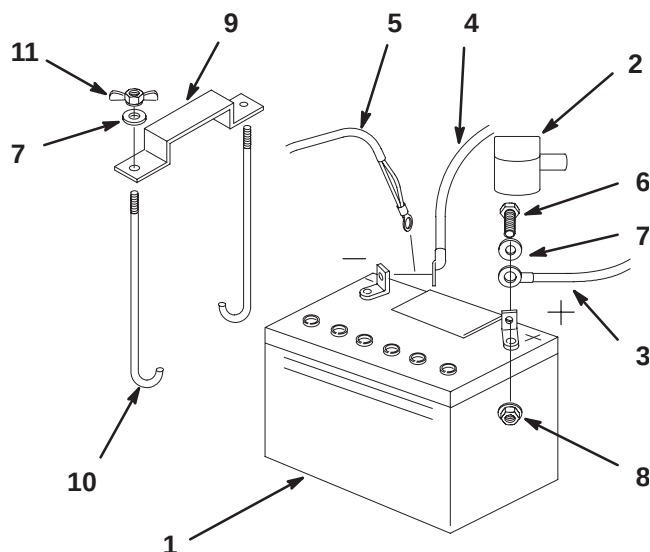

Figure 63
1. Position battery in tray with terminal posts toward the engine (Fig. 63).
4. Secure cables with 2 bolts (1/4 x 3/4 inch), 2 washers (1/4 in.), and 2 locknuts (1/4 inch) (Fig. 63).
6. Secure battery with J-bolts, hold down clamp and 2 washers (1/4 inch), and 2 wing nuts (1/4 inch) (Fig. 63).
4. First disconnect the negative battery cable and ground wire from the negative (–) battery terminal (Fig. 63).
5. Slide the red terminal boot off the positive (red) battery terminal. Then remove positive (red) battery cable (Fig. 63).
6. Remove both wing nuts (1/4 inch) securing the battery clamp (Fig. 63).